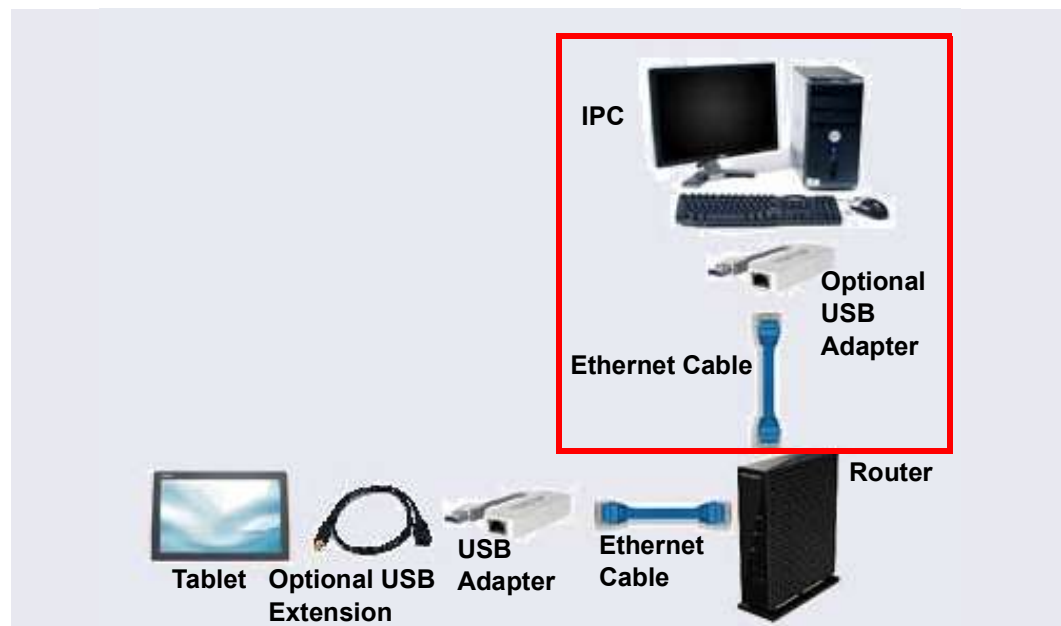

Figure 3-43. Cabling IPC to Router to Tablet
1. If an Ethernet port is not available on the IPC, attach the cable connector on the USB-to-Ethernet adapter (P/N 00302-99-00131) in the kit to a USB port on the IPC (see Figure 3-43, item ①).
2. Connect an Ethernet cable (P/N 00302-99-00129) to the USB port on the USB-to-Ethernet adapter (see Figure 3-43, item 2).